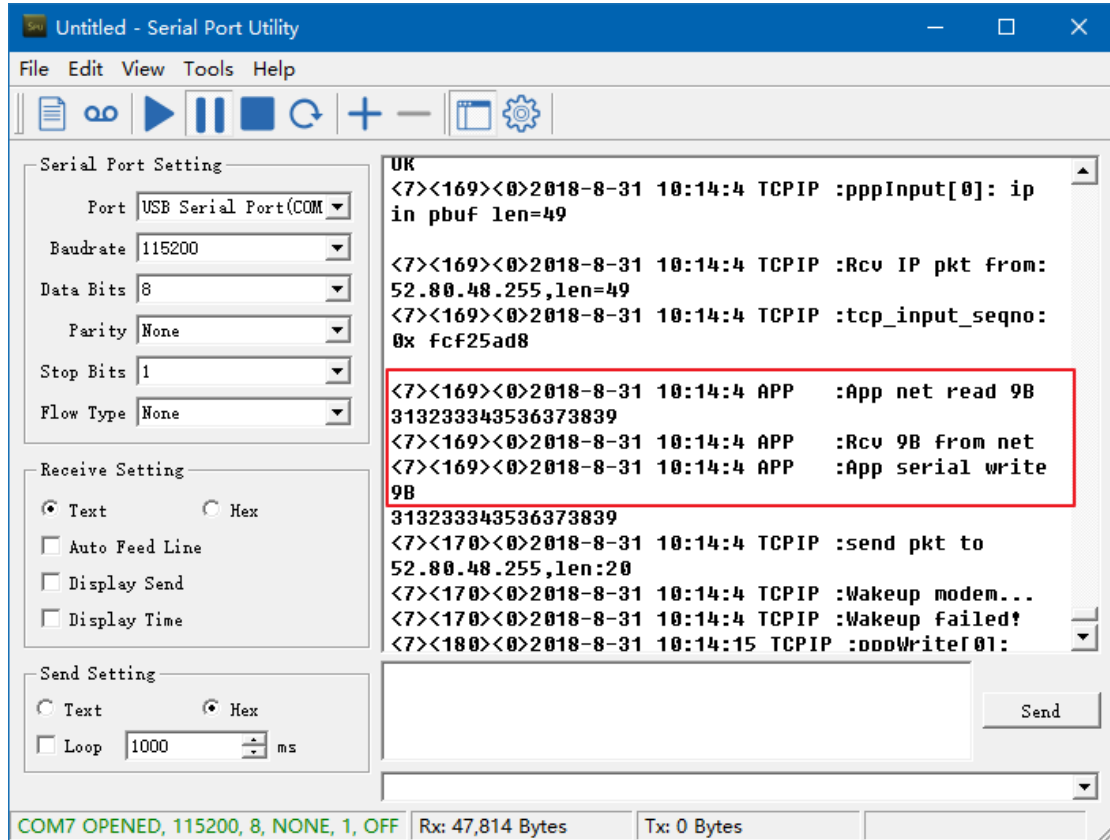

Figure 5-8 TCP Example 3
Step 4: Connect serial port 2 to the PC with a serial cable. Run a serial port tool, such as Serial Port Utility, on the PC to view the content received from the center, as shown in Figure 5-8.